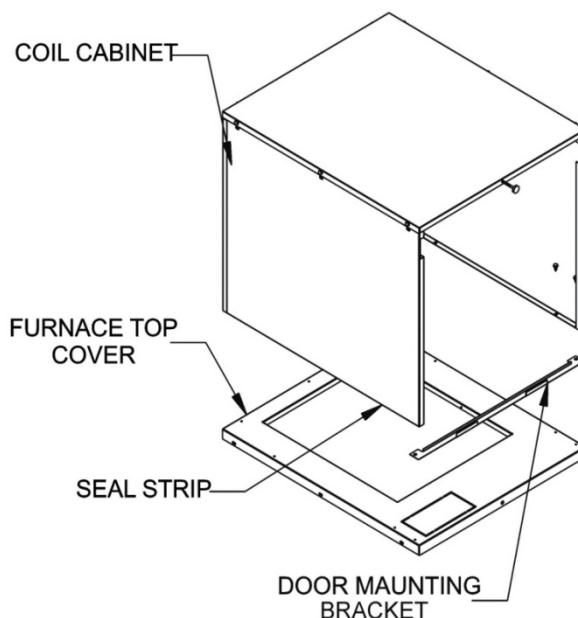

Figure 12: Coil Cabinet Door Bracket Location
7. Place coil cabinet door bracket between the coil cabinet flanges and the furnace top as shown in Figure 12.